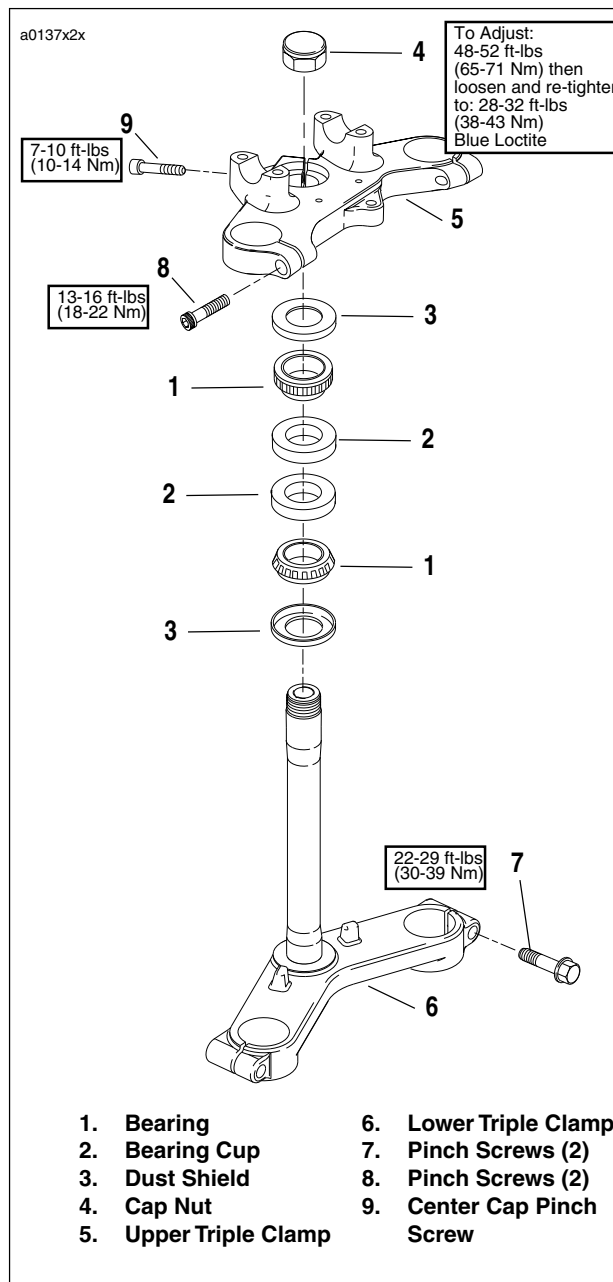

Figure 2-90. Fork Stem and Bracket Assembly
7. See Figure 2-90. Remove screw (9) and capnut (4).
8. Support lower triple clamp (6) and remove upper triple clamp (5).
9. Remove upper dust shield (3) and upper bearing (1).
11. Remove lower bearing (1) and lower dust shield (3) from lower triple clamp.
1. See Figure 2-90. Clean the dust shields (3), bearing cups (2), fork stem and lower triple clamp (6) and frame with solvent.
2. Carefully inspect bearing races and assemblies for pitting, scoring, wear and other damage. Replace damaged bearings (1) as a set (1, 2 and 3).
3. Check the fork stem and lower triple clamp (6) for damage. Replace if necessary.
6. See Figure 2-90. To adjust:
- a. Loosen both pinch screws (7) on lower triple clamp.
- b. Loosen center cap pinch screw (9) on upper triple clamp.
- c. Loosen cap nut (1), then tighten to 48-52 ft-lbs (65-71 Nm) to seat bearing. Loosen cap nut, apply **LOCTITE THREADLOCKER 243 (Blue)** to threads of fork stem and retighten cap nut to 28-32 ft-lbs (38-43 Nm).
8. Tighten both lower triple clamp pinch screws (7) to 22-29 ft-lbs (30-39 Nm).
See Figure 2-90 for exhaust system assembly.